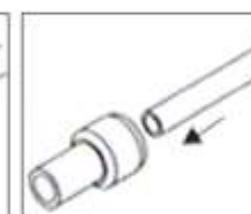

Fig. 4
1. Push the hose into the quick-release fitting (a properly installed hose goes 1.5 cm deep into the quick-release fitting) (Fig.4).